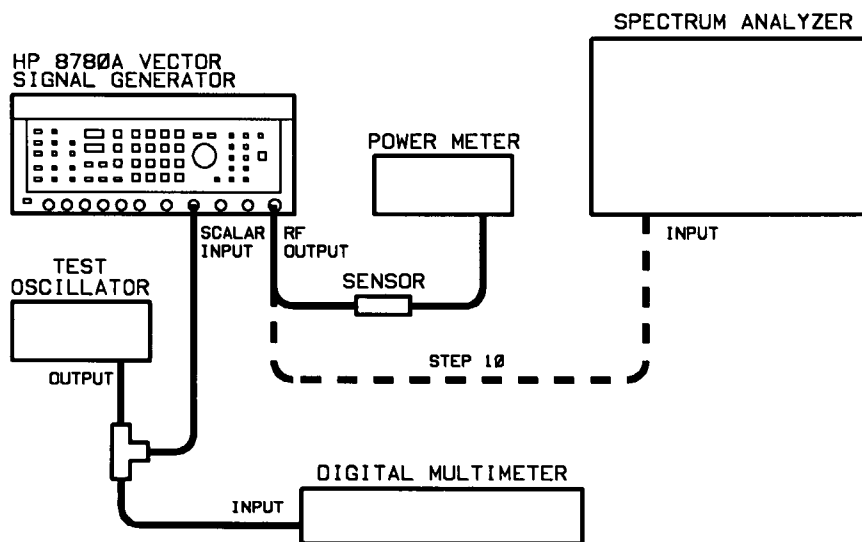

Figure 4-9. Scalar Modulation Test Setup
2. Connect the equipment as shown in figure 4-9.